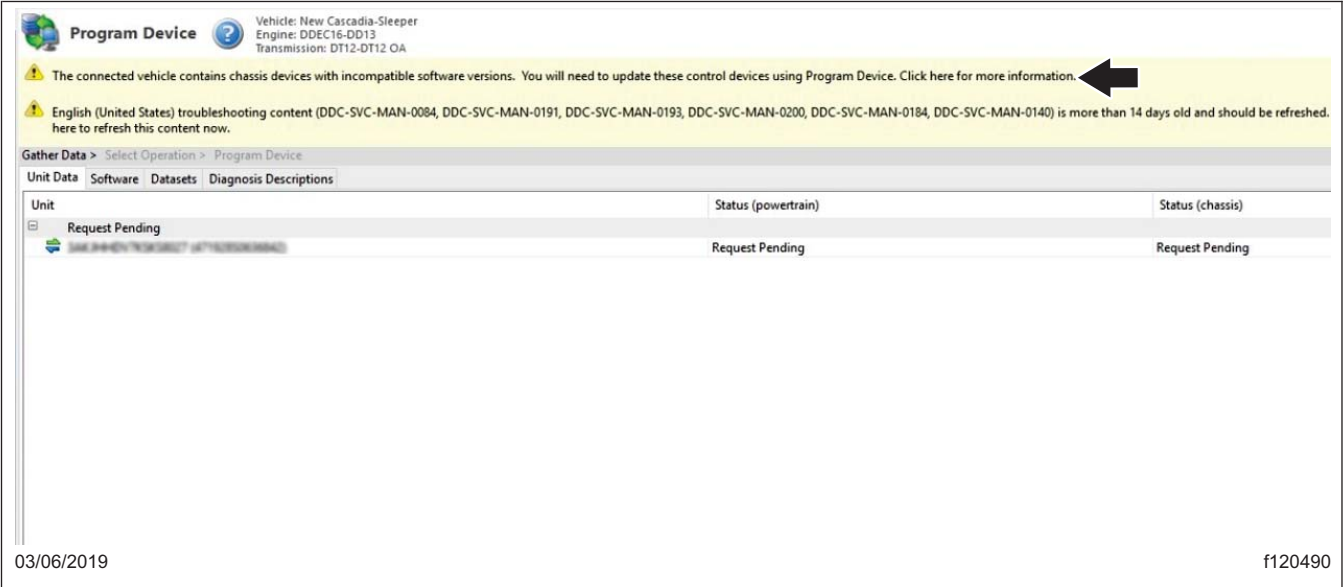

Fig. 11, Clicking on the Banner Message
12. Click on the banner message. See Fig. 11.